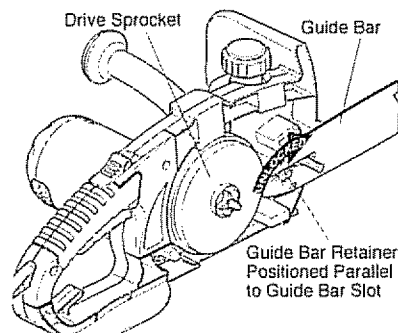

Figure 2 - Unlocking Guide Bar Retainer
3. Rotate guide bar retainer so that it is positioned parallel to guide bar slot (see Figure 2)
4. Install guide bar onto saw body. Assemble center slot of guide bar onto guide bar bolt and guide bar retainer. *Note:* Make sure the head of the guide bar retainer slides through the guide bar slot as shown in Figure 2